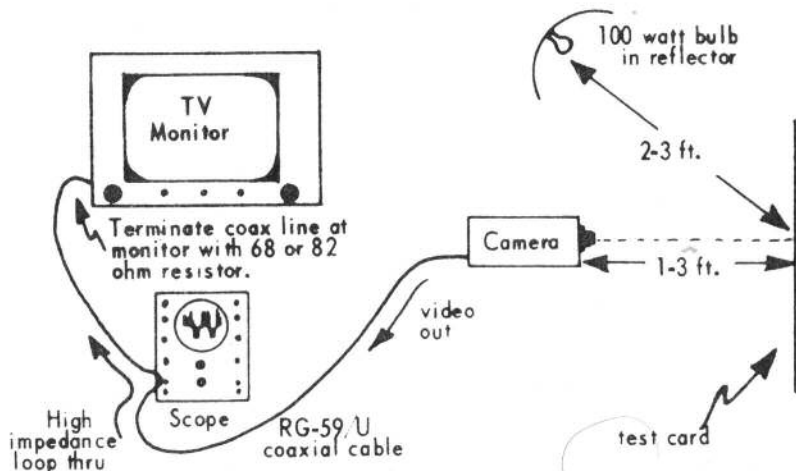

Fig. 13. Recommended tune-up arrangement.
- () 12. Next, with the camera test card and light arranged as shown in fig. 13, uncap the lens and set the iris to F2.7. Advance the beam pot until a "wiping" effect occurs across the screen indicating that the vidicon is no longer in a biased-off condition. A very crude image should now be visible. Don't be concerned if it's non-linear, tilted, upside down, etc. The important thing at this point is that you have an image and that you get it in sharp focus by adjusting both the lens and the focus pot. After doing this, recheck the beam pot to make sure it is correctly set. It should JUST discharge the entire scanned target.